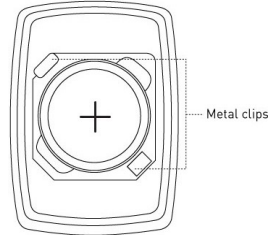

Figure 5
3. Insert the replacement battery with the + sign facing out (see *Figure 5*).
WARNING! The polarity of the battery must be observed, as shown (see *Figure 5*). Improper handling of lithium batteries may result in heat generation, explosion or fire, which may lead to personal injuries. Replace only with the same or equivalent type of battery as recommended by the manufacturer. (see *Specifications*)
2. Place a small flathead screwdriver in the slot between the metal clip (see *Figure 5*) and the battery and twist the screwdriver slightly while holding back one of the black plastic edges holding the battery.